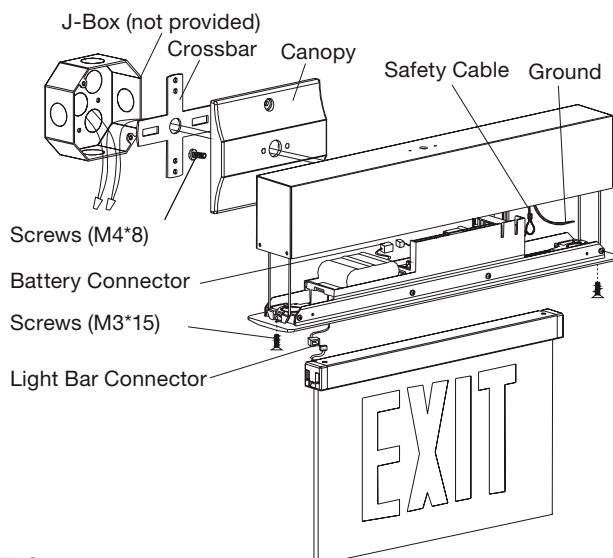

FIG. 5
WALL MOUNT (see Fig. 5)
2. Separate trim plate by pressing down on one side of the spring to take out the module. Then connect the battery connectors. (see Fig. 5)
3. Hook safety cable to the module clip. (see Fig. 5)
4. Remove the J-box cap before routing the AC line and proper wires into the J-Box. (see Fig. 5)